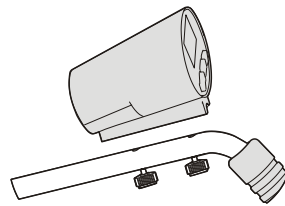

Fig3
2. Let the plastic pillar with two nuts on the bottom of detector control box alignment with two hole of the bend shape tube, and lock with bolts. (See fig.3)